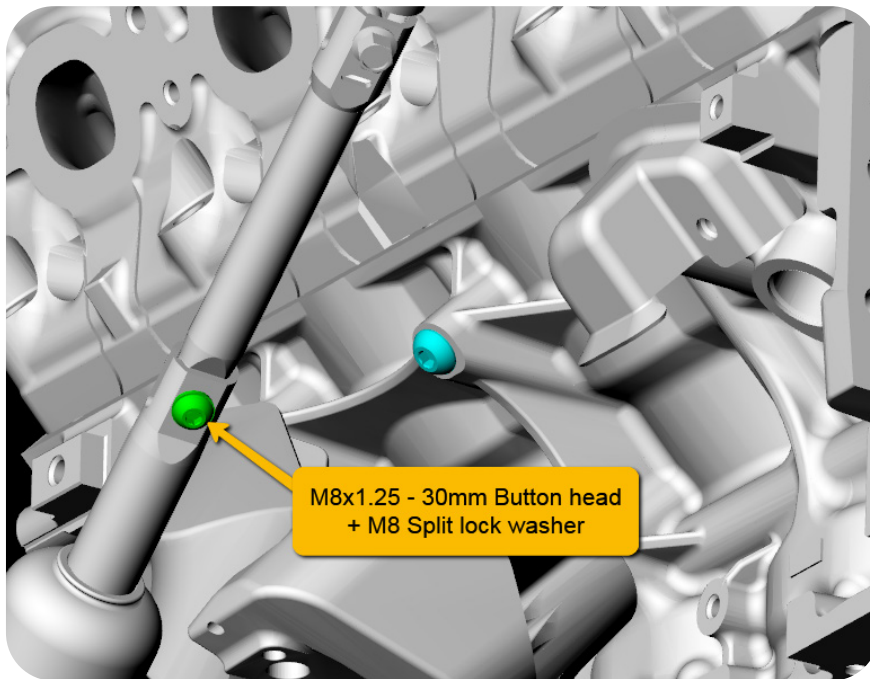

Figure.3
- Reconnect steering shaft with supplied M8x1.25-30mm button head + lock washer. - **See Fig.3**